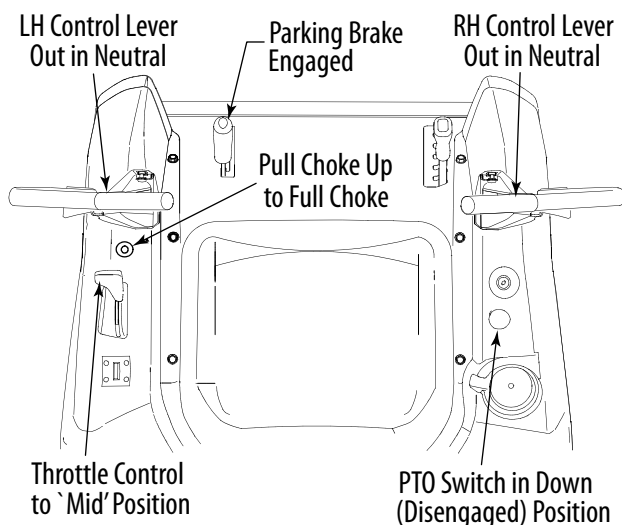

Figure 5-1
- Engage the parking brake. Refer to Figure 5-1.
- Make certain the PTO switch is in the disengaged (down) position. Refer to Figure 5-1.